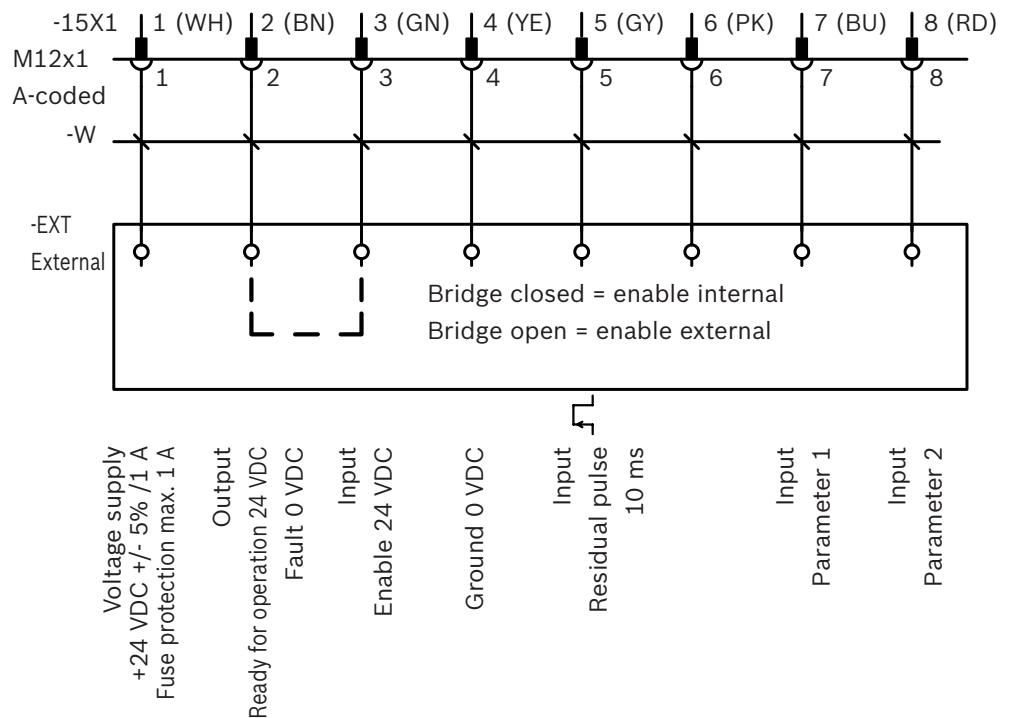

Fig. 14: Assignment of port 15X1: Enable signal 24 VDC
2. 15X1: Enable signal 24 VDC (fig. 14 and 16).
► Connect the mating connector (optionally available, refer to chapter 17.3 "Accessories") for power supply, see fig. 14, as interface to the superior machine control system: